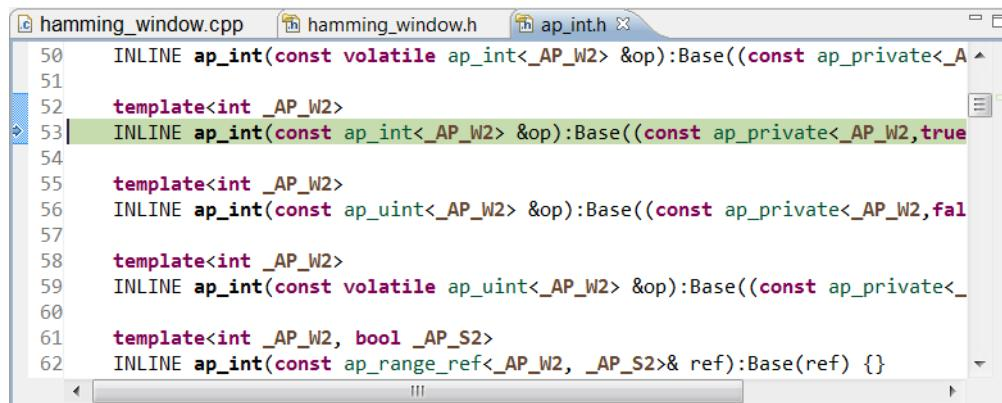

*Figure 3-19: Debug Environment for C Validation Lab 3*
5. Set a breakpoint at line 61 in the `hamming_window.cpp` file as shown in Figure 3-19.